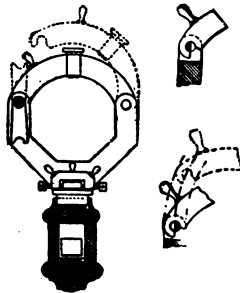

Fig. 11.
**Y's.** The Y's are strong and have an improved locking device (Fig. 11) instead of the usual pin bolts. They are provided with an improved stop by means of which the position of the telescope can be adjusted to have the cross hairs vertical and horizontal. This stop is adjusted by capstan-head screws and made to fold out of the way when the telescope is rotated. At the top of the inner side of the clips of the Y's is a little plunger with a spring. This plunger keeps an equal but light pressure upon the collar of the telescope. One of the Y's is capable of a slight vertical movement by means of double nuts.